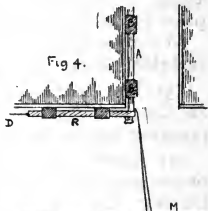

Fig. 4.
Fig. 4 shows a slightly different method. The ropes (D) may be pulled by the sentry at the end of the gallery, thus causing two steel bars (R) to release the portcullis.